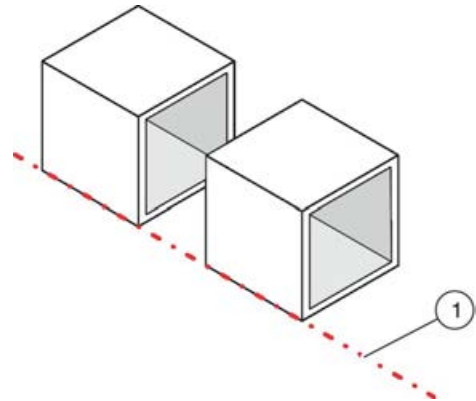

Fig. 14: Aligning AHU casing units
- ▶ Align the AHU casing units so that they are flush with one another (Fig. 14 /1).